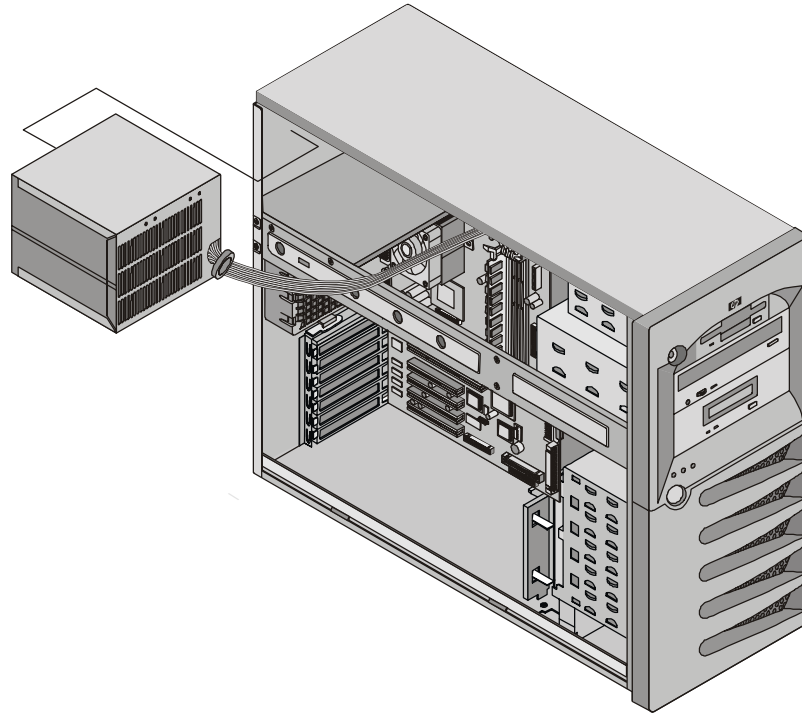

Figure 7-2. Removing the Power Supply
9. Remove the four screws securing the power supply to the chassis. These are located at the rear of the chassis. See Figure 7-2.